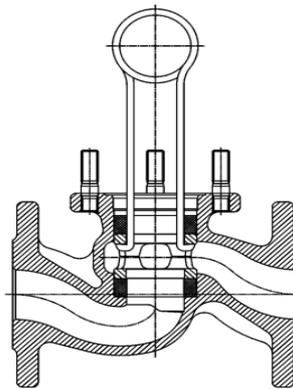

Figure 2
- » Pull out the upper valve ring (Pos. 9) and the lantern bush by means of a lantern drawer without damaging the surface of the body's bore (see Fig. 2)